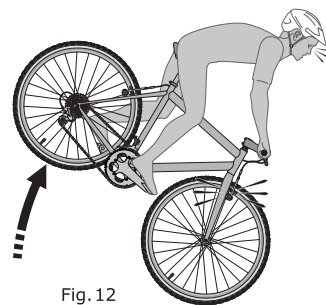

Fig. 12
2. Applying brakes too hard or too suddenly can lock up a wheel, which could cause you to lose control and fall [Fig. 12]. Sudden or excessive application of the front brake may pitch the rider over the handlebars, which may result in serious injury or death.